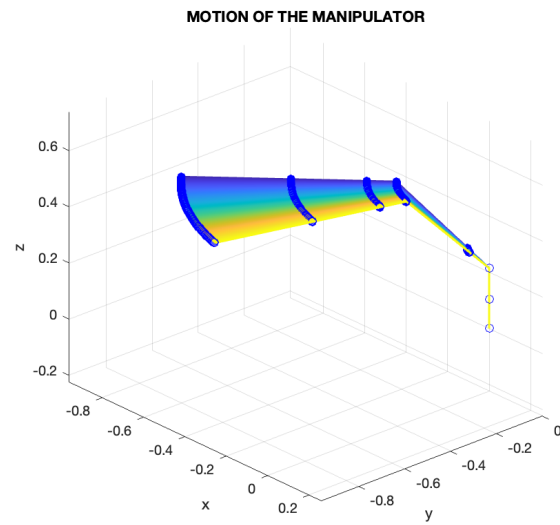

Figure 3: Motion of the manipulator.
- The trajectory of motion is visualized in Figure 3.